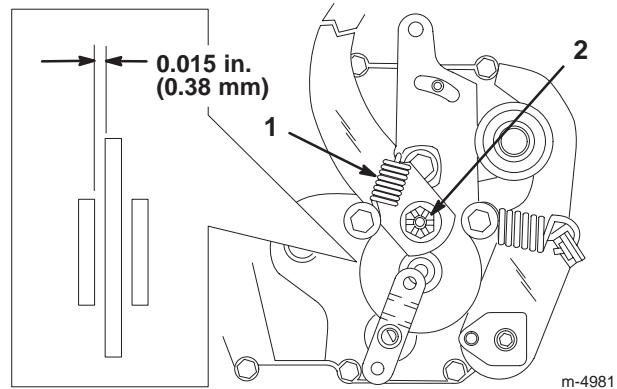

Figure 21
The brake is on the right side of the rear axle, inside the rear tire (Fig. 21). If the brake does not hold securely or stopping power is insufficient, an adjustment is required.
2. Remove the brake arm spring (Fig. 21).
3. Remove the cotter pin that secures the brake adjusting nut and slightly loosen the nut (Fig. 21).
4. Insert a 0.015 in. (0.38 mm) feeler gauge between the brake disc and the brake puck (Fig. 21).